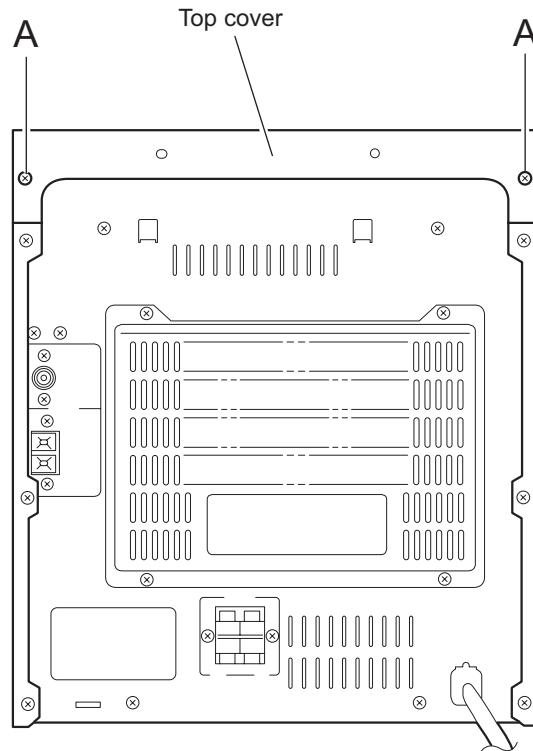

Fig.1
#### 3.1.1 Removing the top cover / side cover (R) and (L) (See Fig.1 to 6)